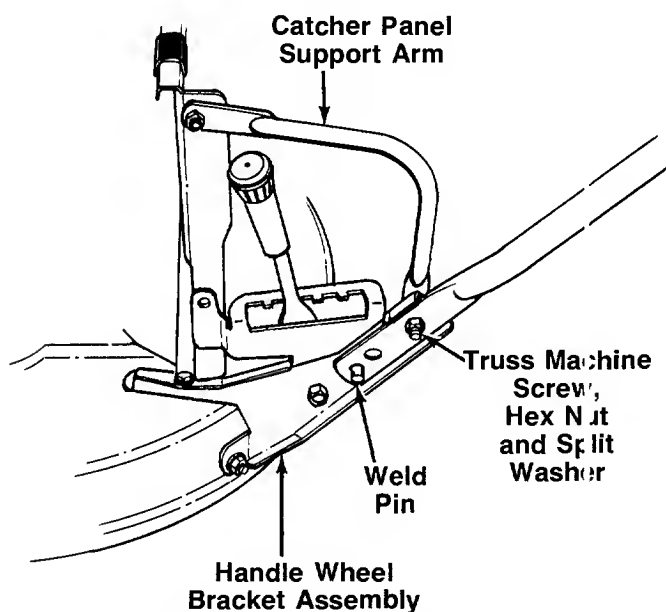

FIGURE 1.—Models 836R thru 838R Shown
2. **Models 836R thru 838R:** On the left side of the mower, remove the truss machine screw, hex nut and split washer from the handle wheel bracket assembly as shown in figure 1.
4. **Models 836R thru 838R:** Pivot catcher panel support arm in position as shown in figure 1. Insert truss machine screw through catcher panel support arm, wheel bracket assembly and handle. Secure using the split washer and hex nut removed in step 2. Tighten securely.